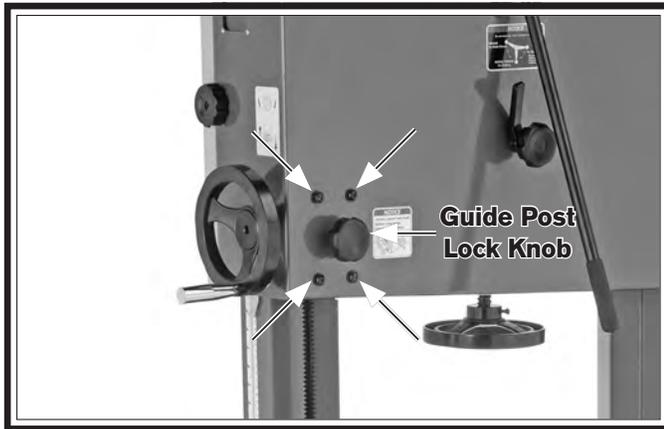

Figure 96. Guide post lock knob and adjustment screws.
4. Loosen guide post lock knob and each of the four screws shown in **Figure 96** $\frac{1}{4}$ -turn.